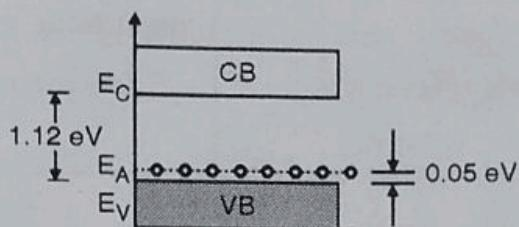

Fig. 1.2.4 : Acceptor level in p-type semiconductor
- The addition of an impurity adds an allowed level E_A at a very small distance above the top of the valence band as shown in Fig. 1.2.4